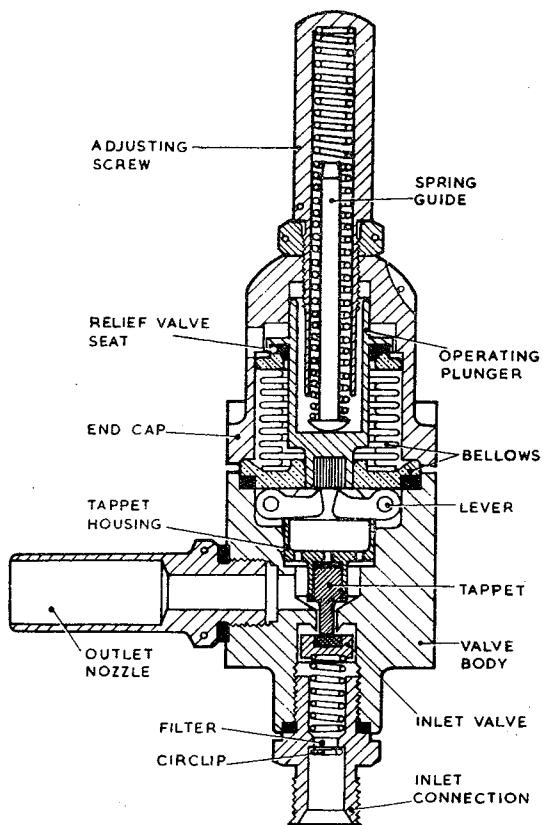

Fig 1 Pressure reducing valve, Type C58
2. The valve (fig 1) consists of a body to one end of which an end cap is attached by four 2BA screws and to the other is screwed an inlet connection